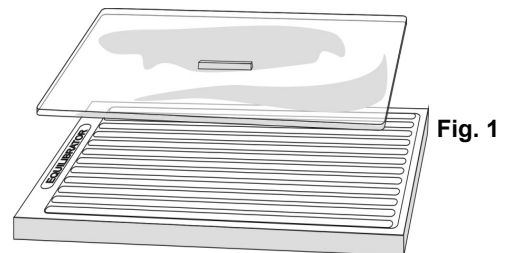

Fig. 1
2. Equilibrate each strip (gel-side up) in 3 mL (11 cm strips) or 2 mL (7 cm strips) solution in an equilibrator (fig. 1) on an orbital shaker at 30 rev/min: